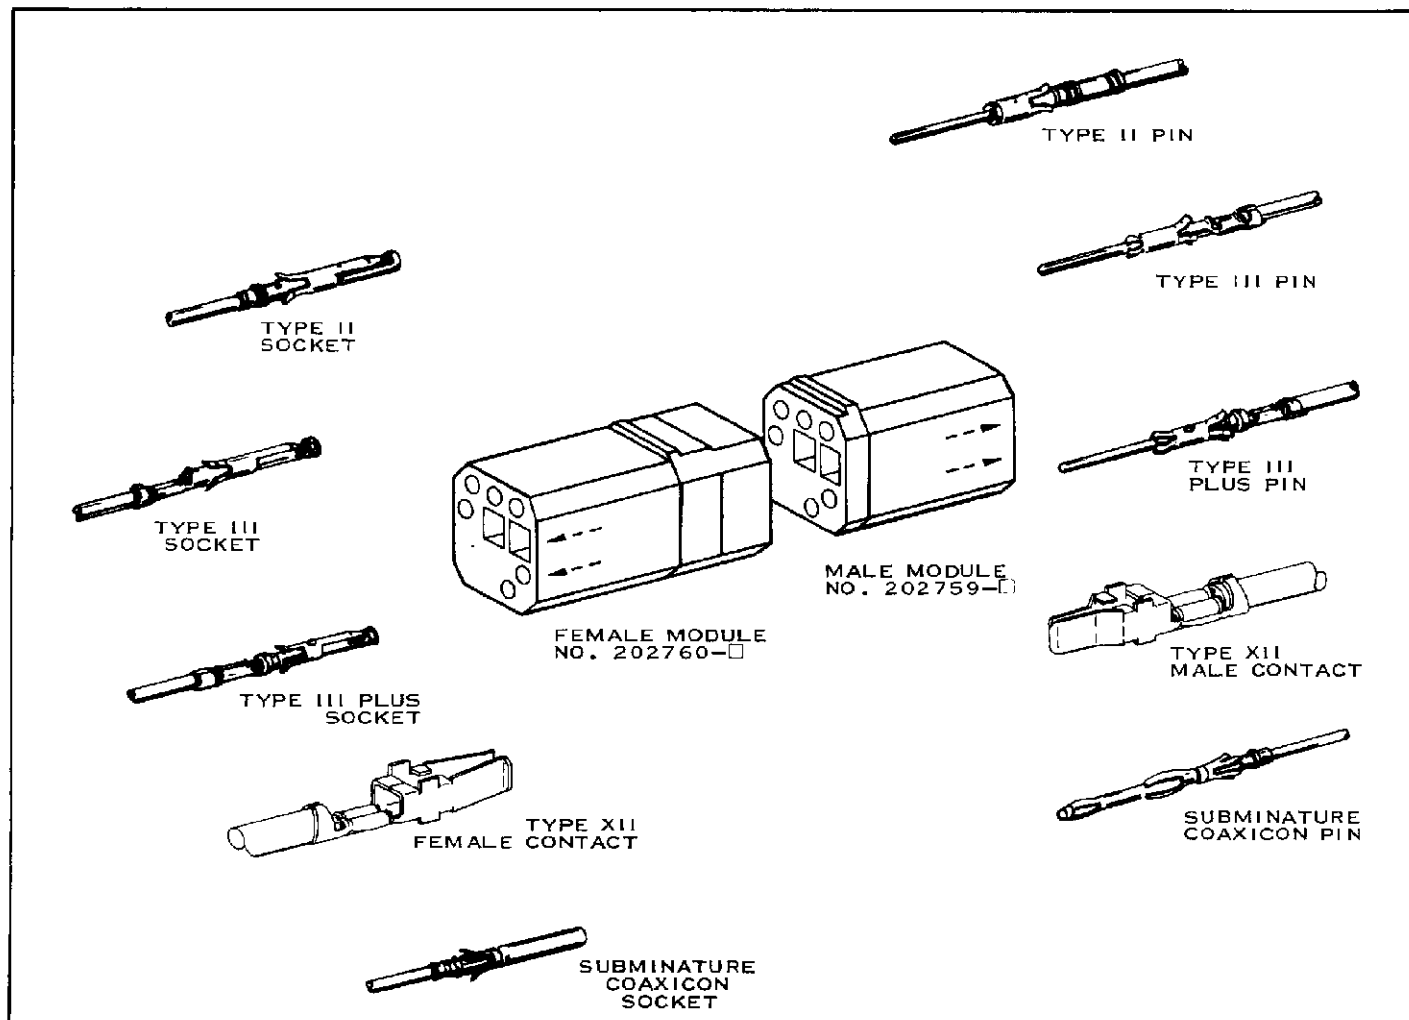
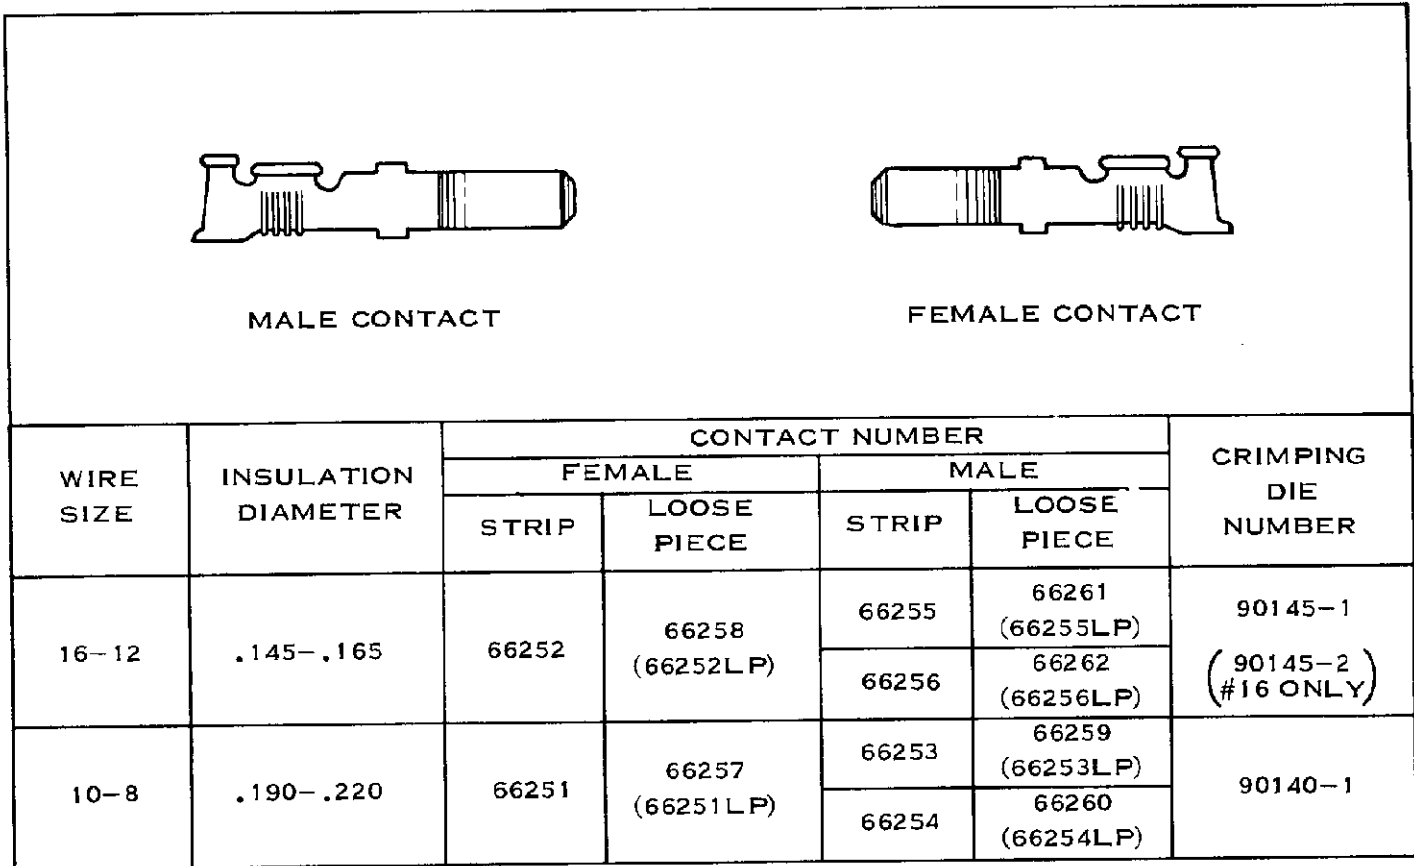

FIGURE 1
FIGURE 2
These instructions cover the A-MP Series "G" Modules shown in Figure 1. To assemble the Modules in the Connector, refer to the instructions packaged with the Connector. Read these instructions and those packaged with the Connector before assembling the Connector.
(a) Size 16 Type II, III, and III Plus Contacts may be used in these Modules. Use Pins in Male Module No. 202759-□ and Sockets in Female Module No. 202760-□. See Figure 1. Select and crimp these Contacts according to AMP Instruction Sheet No. 1379.
(b) Subminiature COAXICON Contacts may be used in these Modules. Use Pins in Male Module No. 202759-□ and Sockets in Female Module No. 202760-□. See Figure 1. Select and crimp these Contacts according to AMP Instruction Sheet No. 7318.
(c) Type XII Contacts may be used in these Modules. Use Male Contacts in Male Module No. 202759-□ and Female Contacts in Female Module No. 202760-□. See Figure 1. Select these Contacts according to Figure 2 of this Instruction Sheet.
- (a) Find the Wire Size to be used in the first column of Figure 2 and make sure the Insulation Diameter of your Wire falls within the range shown in the second column.
- (b) The recommended Dies shown in the last column of Figure 2 which are used in Pneumatic Tool No. 69365, or Hand Tool No. 69710-1.